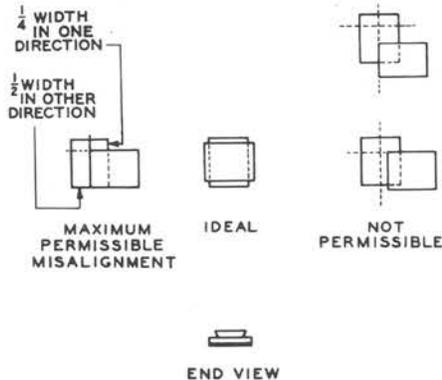

Fig. 34—Contact Alignment—Latch Assembly
**\*2.38 Contact Alignment:** Contact alignment shall be within the limits shown in Fig. 34. Gauge by eye. To check the requirement, remove the out bin in accordance with 3.007 and then remove the cover of the contact spring.